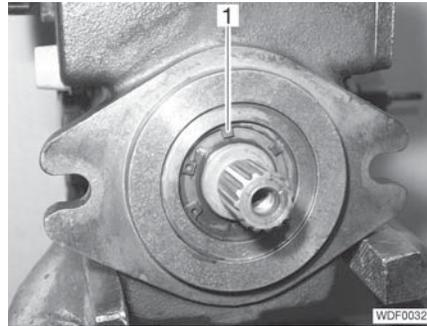

Fig. 118 Securing the annular shaft seal
- Remove the locking ring (Fig. 118,1).
- Using a suitable driving tool, carefully drive in the annular shaft seal sufficiently far for the locking ring (Fig. 118,1) to be inserted.
- Insert the locking ring (Fig. 118,1).